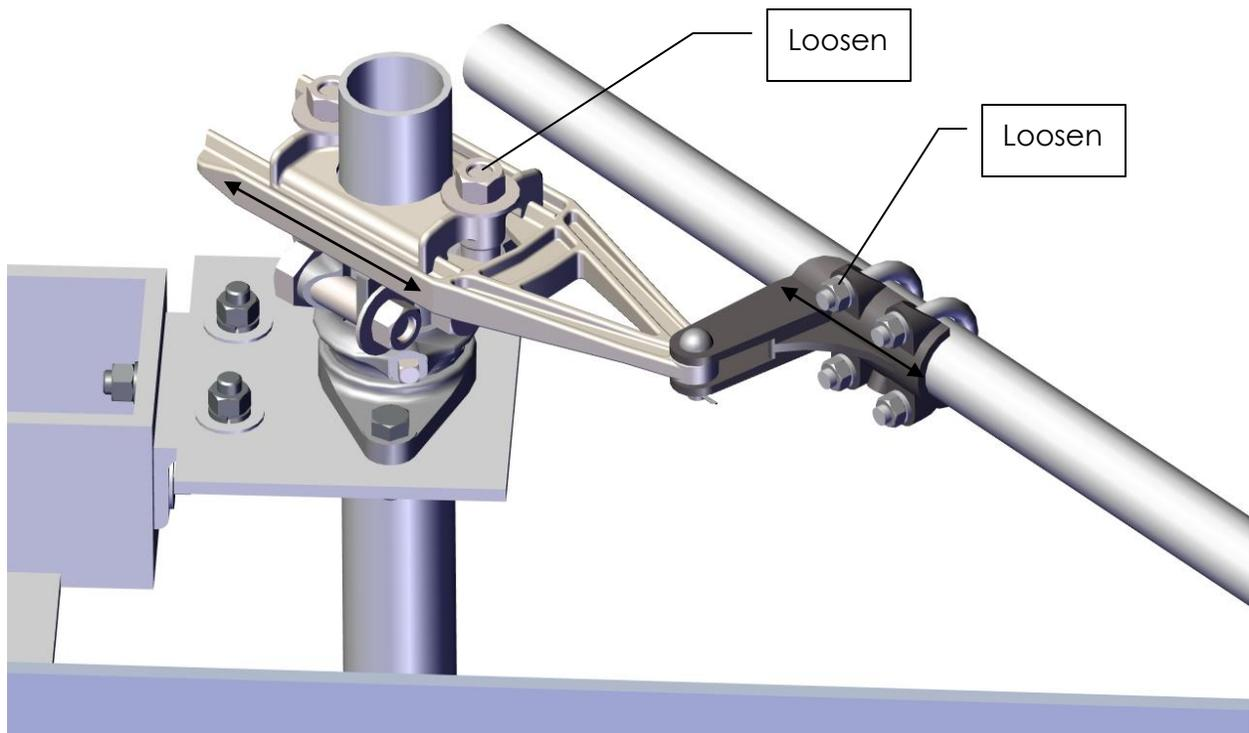

Figure 27: Adjusting the Adjustable Arm
- v) Lengthen the adjustable radius arm approximately ¼-inch. Allow the pipe clevis to reposition itself the same ¼ inch. See Figure 27.
- v) Shorten the adjustable radius arm approximately ¼-inch. Allow the pipe clevis to reposition itself the same ¼ inch. Refer to Figure 27.